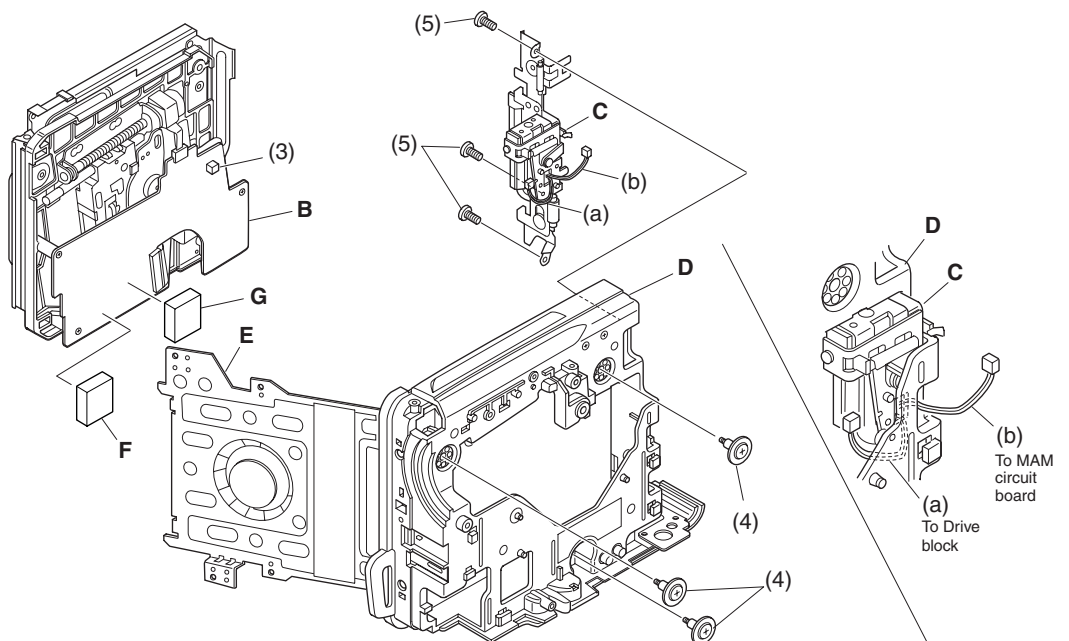

Fig. 4-5b
- (2) Remove the two screws holding the hinge, and then open the hinge.
- (3) Disconnect the connector on drive block circuit board. (Fig. 4-5b)
- (4) Remove the three screws holding the drive block.
- When installing the lock unit, wire the cables (a) and (b) of lock unit as shown in Fig. 4-5b.